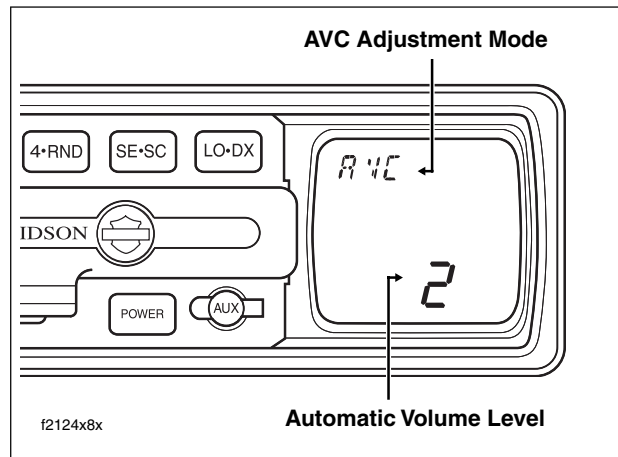

Figure 6-16. Adjust Automatic Volume Control
3. Push the LO/DX button two more times to sequence to the AVC adjustment screen. The letters "AVC" are displayed in the upper portion of the LCD display, while the automatic volume level number appears in the lower portion. See Figure 6-16.
4. To ramp the AVC up, press the Mode Select Switch on the right handlebar in an upward direction (UP). To ramp the AVC down, press the switch in a downward direction (DN). Although the factory presets the volume level at number "2," it is adjustable from "0" (AVC least aggressive) to "4" (AVC most aggressive). Any adjustment affects the AVC schedules of both headset and external speakers.